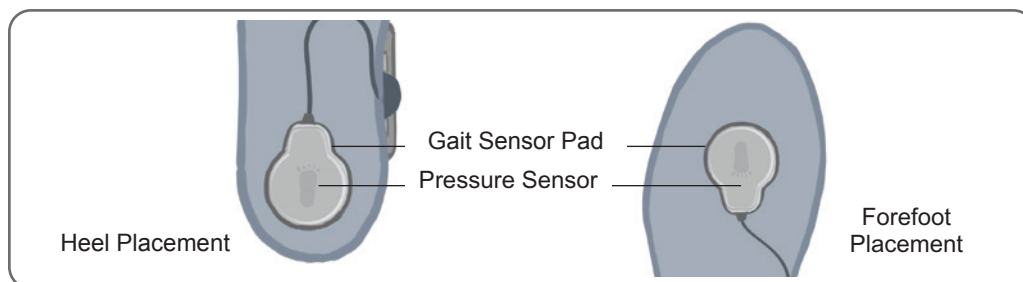

Figure 8-5: Positioning the Foot Sensor in the Shoe
- For heel position placement point the wire of the Foot Sensor toward the toe of the shoe. For forefoot position placement point the wire of the Foot Sensor toward the heel of the shoe. Attach the pressure sensor to the Foot Sensor pad. See Figure 8-5.